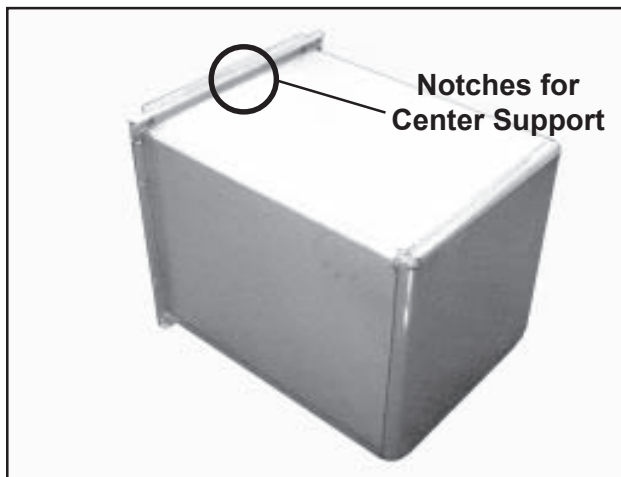

Figure 14. Cage Upside-down
1. Turn the cage upside-down (Figure 14).
9. Fit one end of the center support into the notches in the cage front frame member (Figure 14).